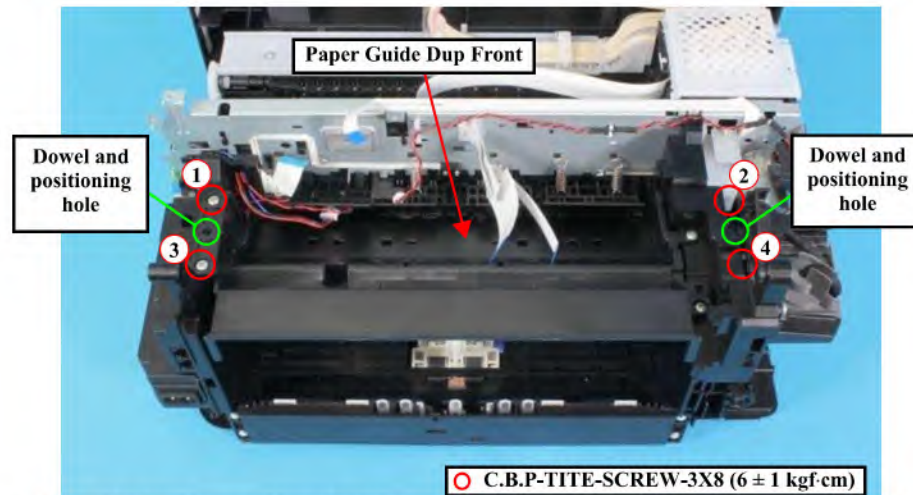
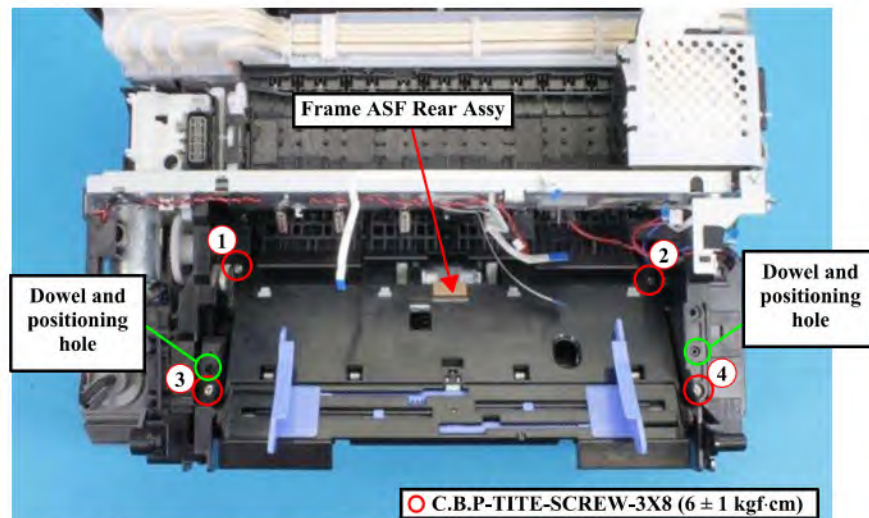

Figure 3-52. Removing the Paper Guide Dup Front (ET-4750/ET-4760/L6190/ST-4000 series/ET-3750/ET-3760/L6170/ST-3000 series/ET-3700/ET-3710/L6160 series)
Figure 3-53. Removing the Frame ASF Rear Assy (ET-2750/ET-2760/L4160/ST-2000 series/ET-2700/L4150 series)
- Insert the two positioning holes on the Paper Guide Dup Front or the Cover Rear ASF Assy over the dowels on the Frame Base Assy. (Figure 3-53)
- Screw in the order given in Figure 3-52 and Figure 3-53.